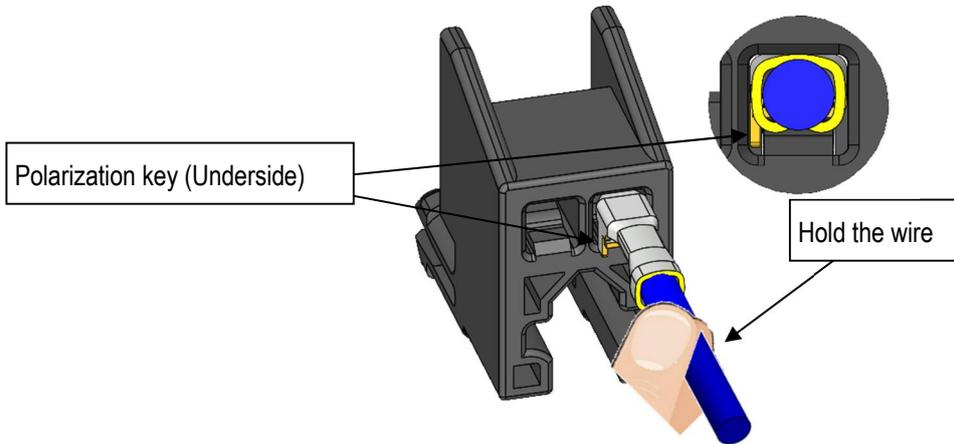

Fig 23. Terminal insertion direction
- ① Ensure that the terminal is crimped correctly and there is no damage, deform or dirt present.
- ② Hold the wire to insert the terminal as shown in Fig.23.
- ③ Insert the terminal into the corresponding core hole of the housing, as deeply as possible, in the orientation as shown in Fig. 23.
- ④ Once the terminal is inserted, ensure that the terminal retention is fastened by pulling the wire lightly towards you.